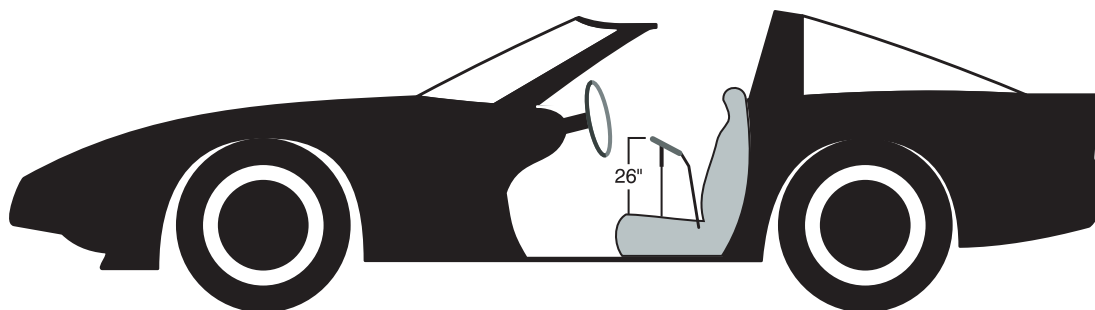

Figure 4.1 Positioning the microphone.
2. Place the microphone at the listening position. It helps to position the microphone away from any reflecting surfaces. Orient the microphone as shown in Figure 4.1.